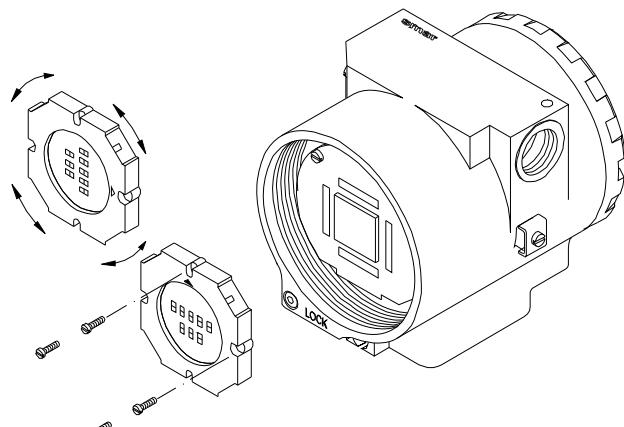

Figure 5.4 – Four Possible Positions of the Display
Plug sensor connector and power supply connector to main board. If there is a display, attach it to the main board by means of 4 screws (3). The display can be installed in any of the 4 possible positions (See Figure 5.4).